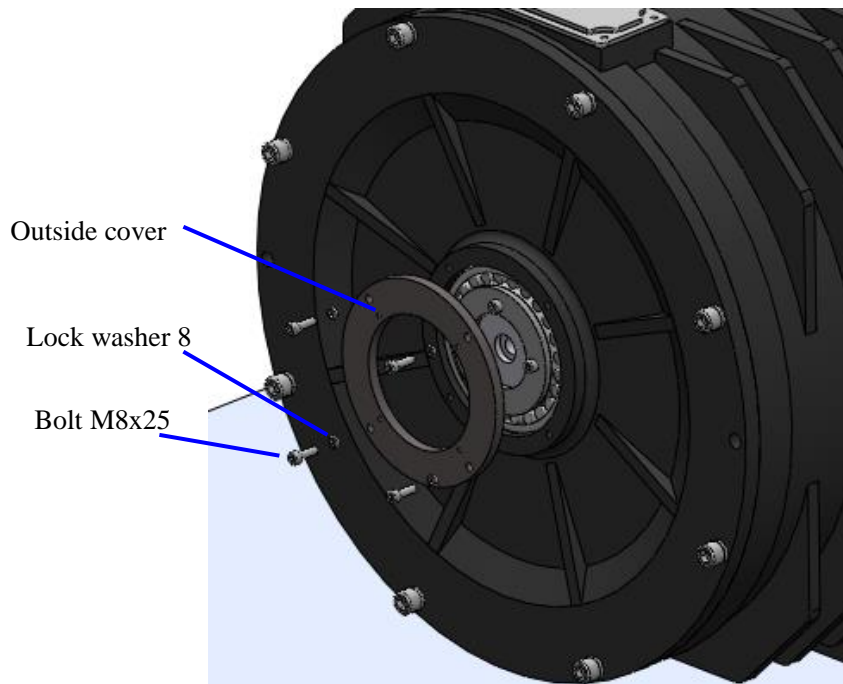

Figure 122: Install Cover 5
5. Install the Outside cover on the back cover, and then tighten the bolt M8x25 (4 pieces) with spring washer 8 with hex wrench (6mm). See Figure 122.